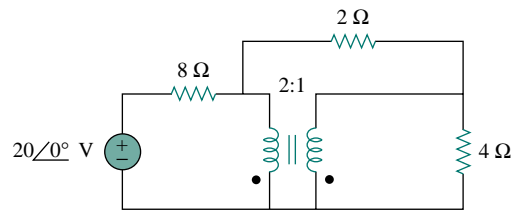

Figure 13.110 For Prob. 13.43.
- 13.43** Find the average power delivered to each resistor in the circuit of Fig. 13.110.